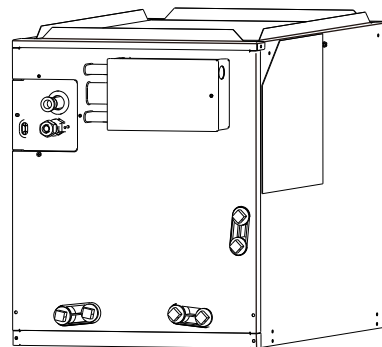

Fig. 3-5 Front view
(7) The kit is not allowed to be installed in the lower half of the coil front panel because there is a coil inside that could be punctured by screws. This area is shown by the shaded area in Fig.3-5.